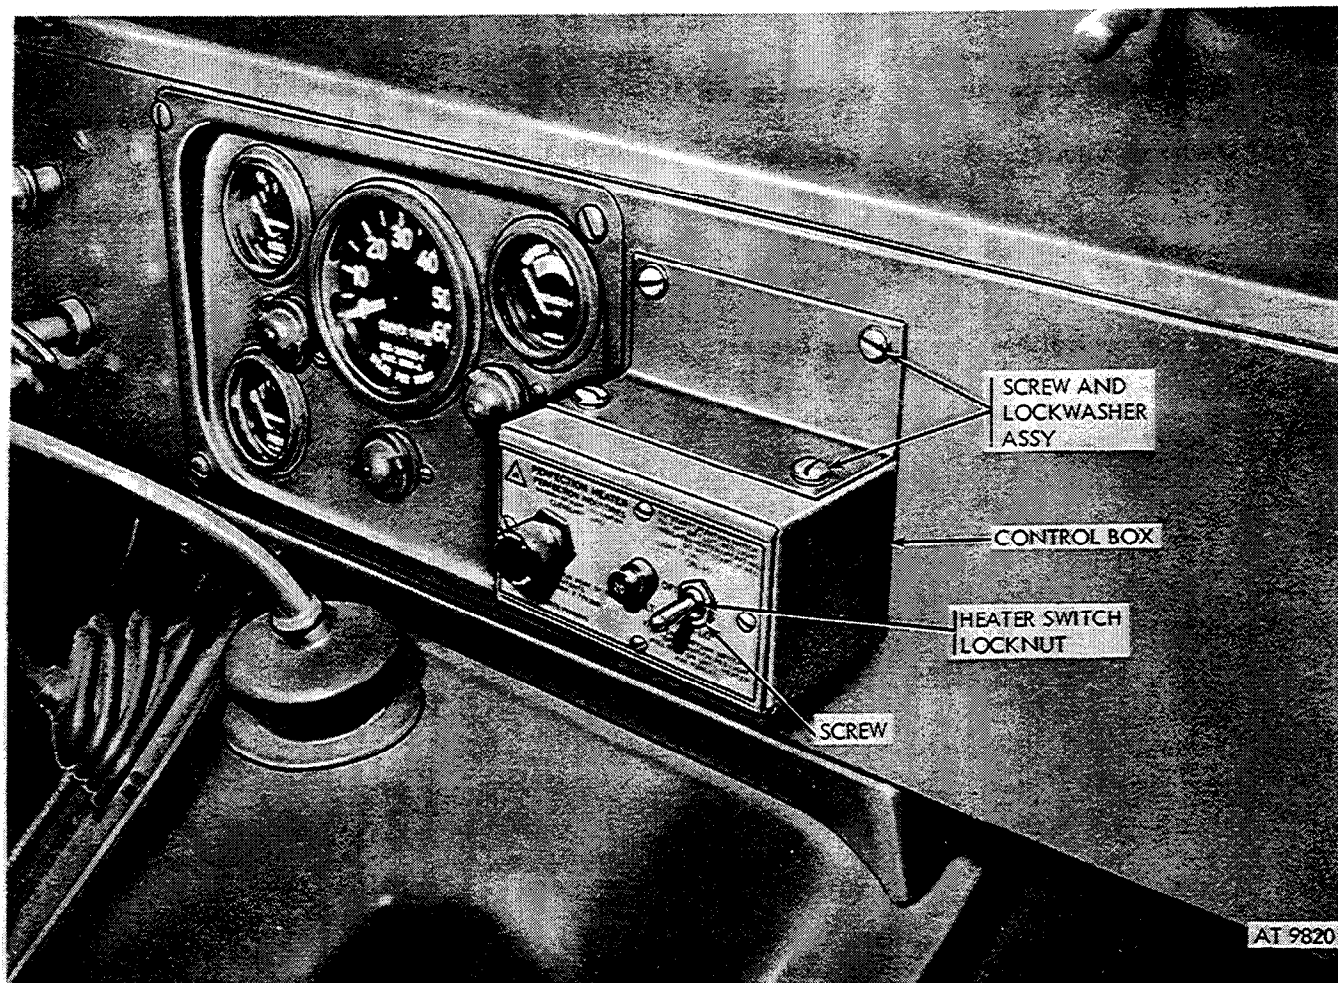

Figure 3-13. Control box assembly.
#### a. Removal. Refer to figure 3-13.
(1) Remove two screws securing control box cover (fig. 3-13). Remove cover.
(2) Disconnect two jumpers and one cable from rear of switch.
(3) Remove locknut (fig. 3-13) securing switch to cover.